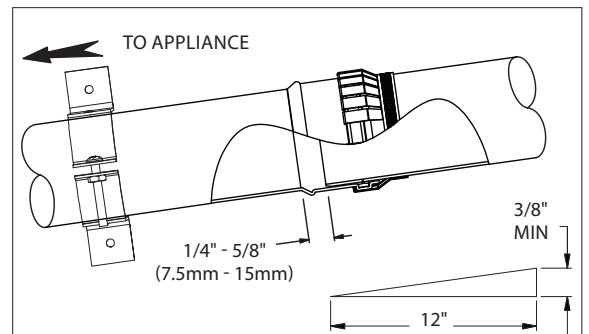

Figure 6
- The slope of the vent pipe must be at least 1.8° (3/8" rise per ft run, 31 mm per meter) back to the appliance. Ensure there are no dips in the system where condensate can collect. (**Fig. 6**)
- The venting system shall be securely supported using suitable hangers. Duravent hardware is recommended; field supplied support hardware suitable to the AHJ is acceptable, hardware must not deform or damage the vent. (**Fig. 6 and 7**) Make sure the load of the vent system is not supported by the appliance.
PP Pipe sections must be disengaged 1/4"-5/8" per joint (to allow for expansion) and sloped 1.8°(3/8"per ft) back to the appliance per Fig.6 for proper condensate flow.